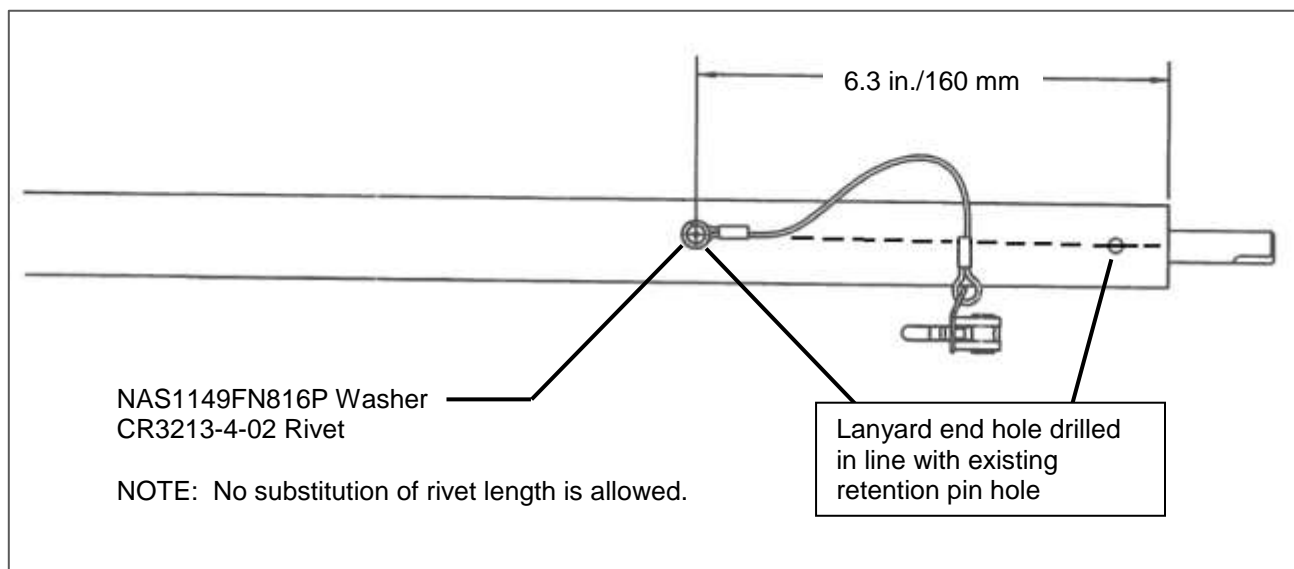

Figure 4. Lanyard Mount Hole Location
- 6.5 Drill a  $\text{Ø}0.129/0.132$  hole through the wall of the collective stick in the location shown in Figure 4. Deburr the hole.